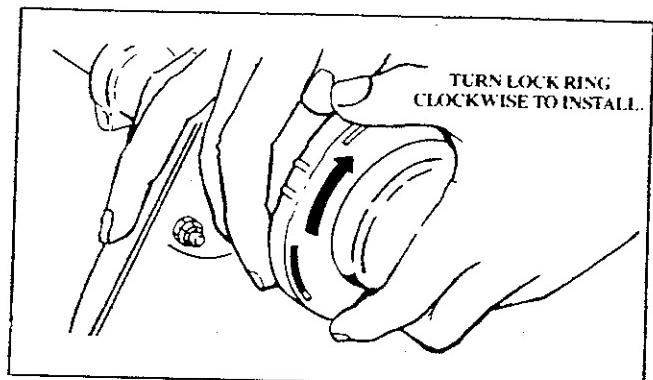

Figure 19
- g. Check to be sure the lock ring is properly installed by attempting to turn the ring counterclockwise ← and pulling on it. Reinstall properly if the lock ring comes off. Figure 19.